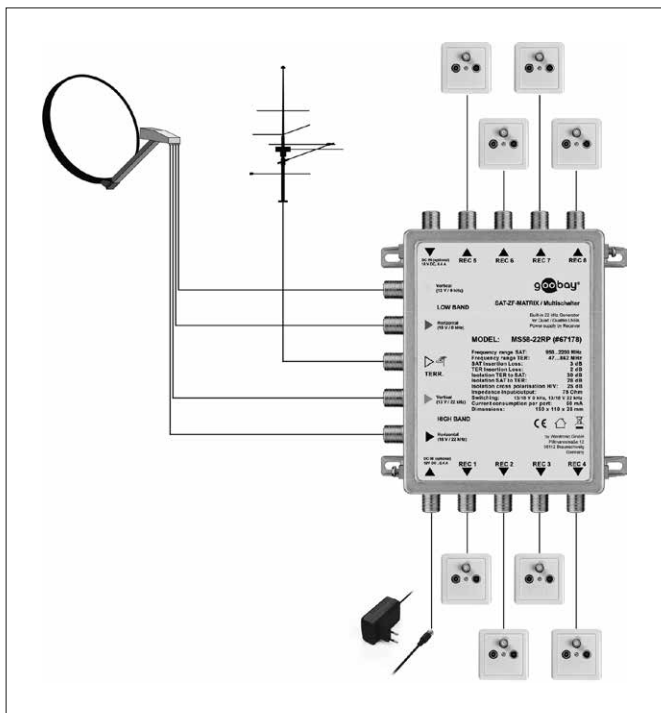

Fig.4: Connections
- Connect the outputs of the multiswitch (1, 8) with the cables that lead to the individual receiver antenna sockets. (See Fig. 4)